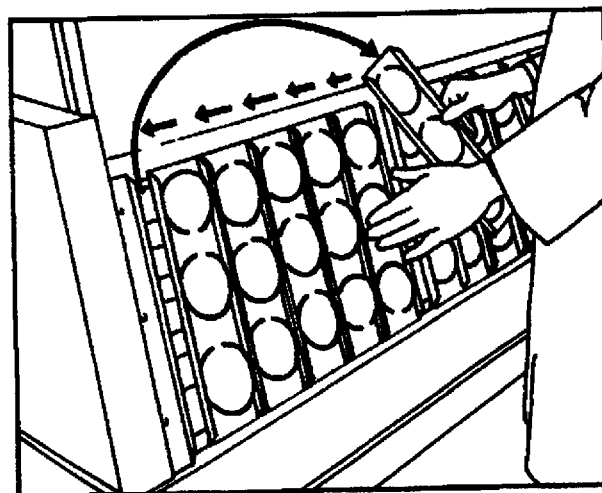

FIGURE 3
4.5 Rotate the panel holders horizontally on a daily basis toward the center of the QUV tester. See Figure 3.